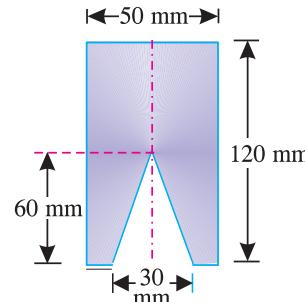

Fig. 6.34.
5. A right circular cone of 30 mm diameter and 60 mm height is cut from a cylinder of 50 mm diameter at 120 mm height as shown in Fig. 6.34. Find the position of the centre of gravity of the body from its base.    [Ans. 60.7 mm]